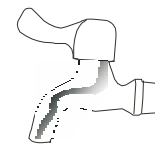

Figure 1
1. For a regular faucet (Figure 1), it is necessary to insert the adapter into the faucet and tighten the screws, then connect the inlet pipe to the adapter.